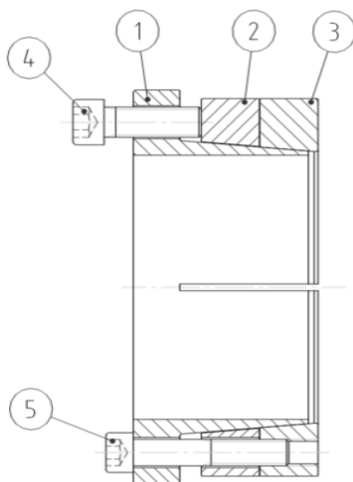

Fig. 3
3. Release collar item [2] by tightening all push-off screws in a crosswise pattern, not exceeding $\frac{1}{4}$ turns for several passes (see fig. 3).